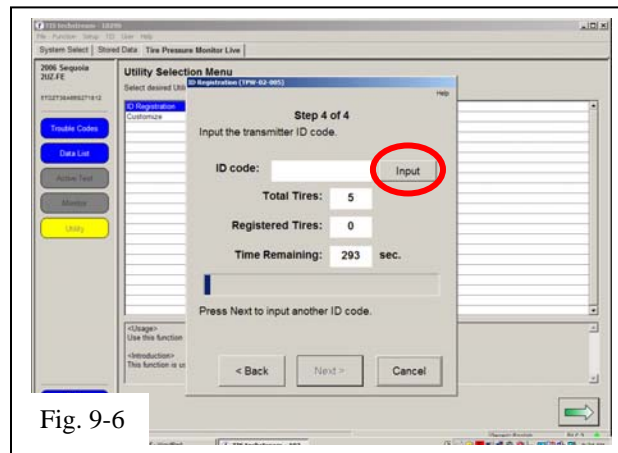

Fig. 9-6
- (i) Select “Next” for Steps 1 through 3. Select “Input” in Step 4 to begin TPMS ID registration. (Fig. 9-6)